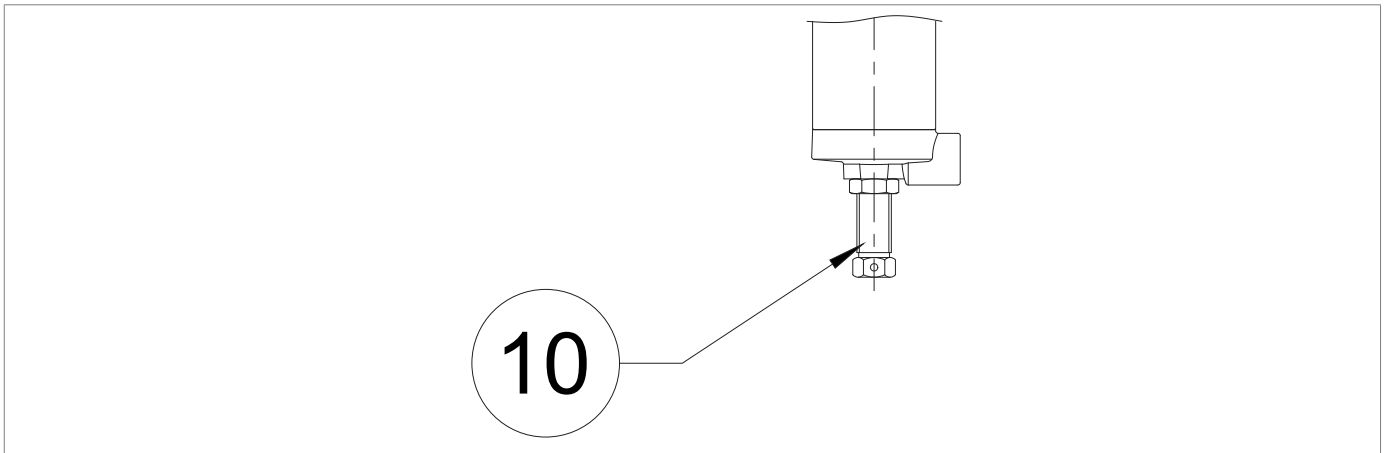

Fig. 8.37. 200/A/FO and 200/A series pilots
12	<p>a - FOR INITIAL COMMISSIONING OF THE REGULATION LINE</p> <p>If the pressure downstream (Pd) is not at the required calibration value, proceed as follows:</p> <ul style="list-style-type: none"> value of the downstream pressure (Pd) is lower than the required calibration value: load the pilot calibration spring (3) by turning the adjustment screw (Fig. 8.37, ref. 10) clockwise value of the downstream pressure (PD) is higher than the required calibration value: unload the pilot calibration spring (3) by turning the adjustment screw (Fig. 8.37, ref. 10) clockwise
<p>b - AFTER MAINTENANCE OF THE REGULATION LINE</p> <ul style="list-style-type: none"> load the pilot setting spring (3) by turning the adjustment screw (Fig. 8.37, ref. 10) clockwise to increase the regulator pressure value (1)
12	<p>a - FOR INITIAL COMMISSIONING OF THE REGULATION LINE</p> <p>If the pressure downstream (Pd) is not at the required calibration value, proceed as follows:</p> <ul style="list-style-type: none"> • value of the downstream pressure (Pd) is lower than the required calibration value: load the pilot calibration spring (3) by turning the adjustment screw (Fig. 8.37, ref. 10) • value of the downstream pressure (Pd) is higher than the required calibration value: unload the pilot calibration spring (3) by turning the adjustment screw (Fig. 8.37, ref. 10) clockwise <p>b - AFTER MAINTENANCE OF THE REGULATION LINE</p> <ul style="list-style-type: none"> • load the pilot setting spring (3) by turning the adjustment screw (Fig. 8.37, ref. 10) clockwise to increase the regulator pressure value (1)